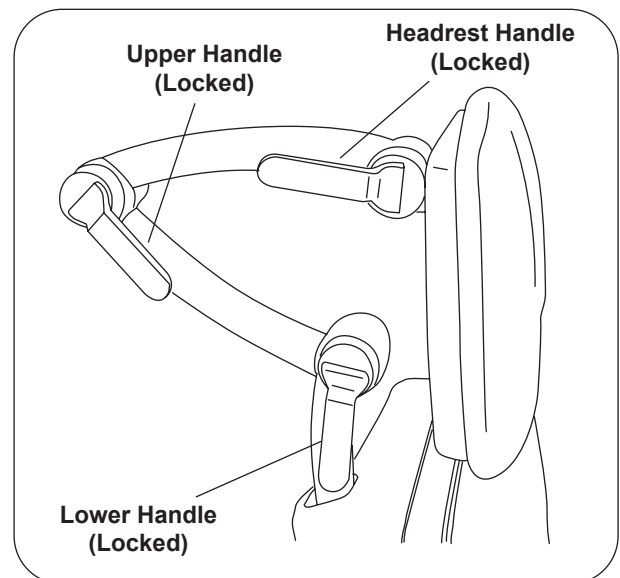

Figure 12. Headrest Handles
1. To move the headrest, rotate the three handles to their open position. Move the headrest to its desired location. Rotate the 3 handles to their locked position as shown in Figure 12.